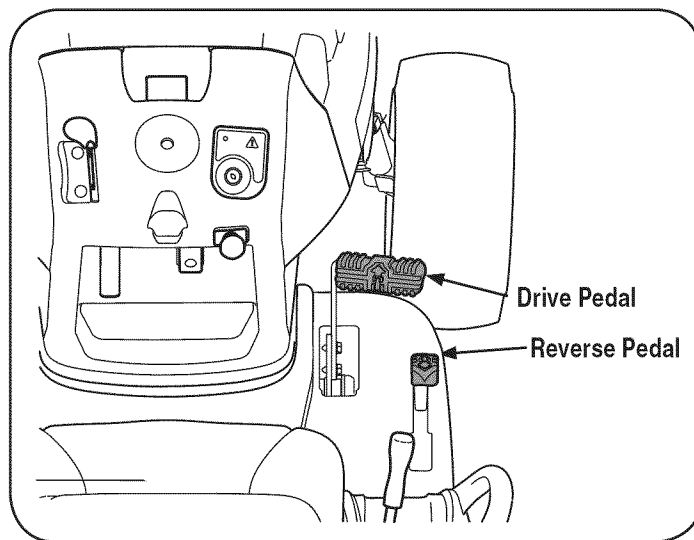

Figure 7
2. To travel FORWARD, slowly press the upper portion of the drive pedal forward until the desired speed is achieved. See Figure 7.
3. To travel in REVERSE, check that the area behind is clear, then slowly depress the lower portion of the drive pedal with the ball of your foot (NOT your heel) until the desired speed is achieved. See Figure 7.